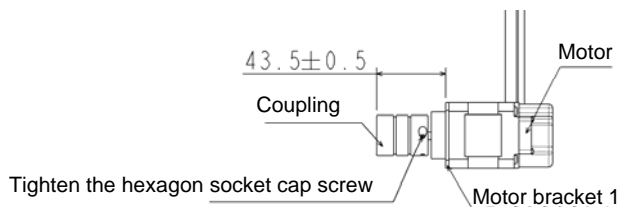

Fig. 5.6-6
- (9-2) Perform the home position return operation, and after the motor is stopped, insert the coupling into the motor shaft. When assembling the motor (if changing the direction that the motor wire comes out, remove the Phillip-head countersunk screw, rotate the motor, and tighten to the motor bracket), perform positioning so that the coupling screw is visible from the motor block opening. The coupling assembly dimensions are shown in Fig. 5.6-6.